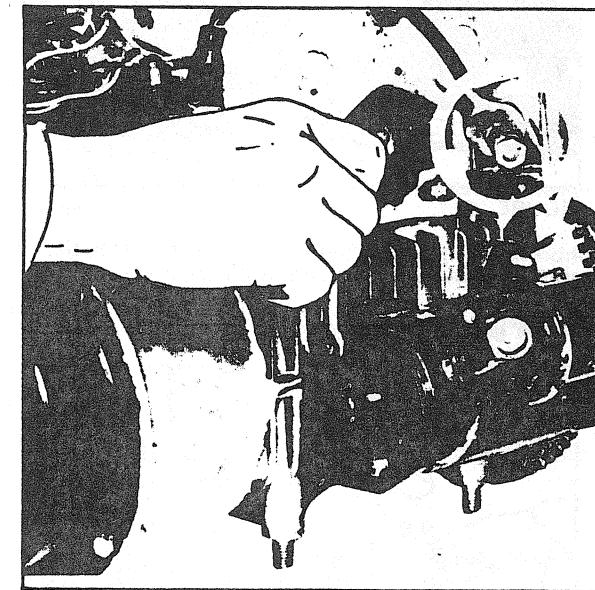

FIGURE 1
- Unscrew the two (2) nuts securing the starter to the crankcase studs.
- Unscrew the two (2) nuts attaching starter to starter bracket, twist the bracket end and remove starter from engine (Fig. 1).